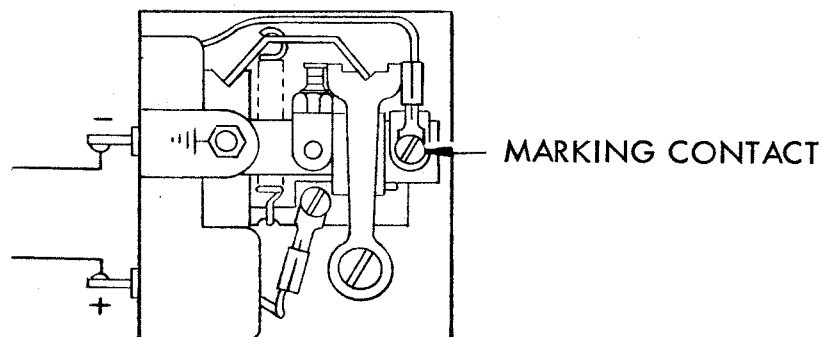

FIGURE 2. 154190 R.F. FILTER CONNECTIONS
(5) Engage the 156644 Drive Link with the transfer bail and re-engage the 86304 Drive Link Spring.
(6) Secure the R.F. Filter leads to the signal generator contact terminals with the 1293 Screws and the 110743 Lock Washers as illustrated in Figure 2.
(7) Remove the two 131099 Terminals, 41733 or 154173 Strain Relief Plate, and 154156 Rubber Grommet from the signal line cable. Trim the two signal line cable leads to approximately equal length. Skin both leads approximately 1/2", twist and tin. Solder both leads to the R.F. Filter as illustrated in Figure 2. The polarity of the signal leads shall be maintained. Color codes apply as shown in the following table.